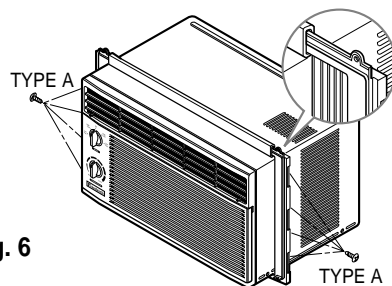

Fig. 6
1. Insert the Guide Panels into the guides of the air conditioner. Fasten the Curtains to the unit with screws (TYPE A), as shown Fig. 6.